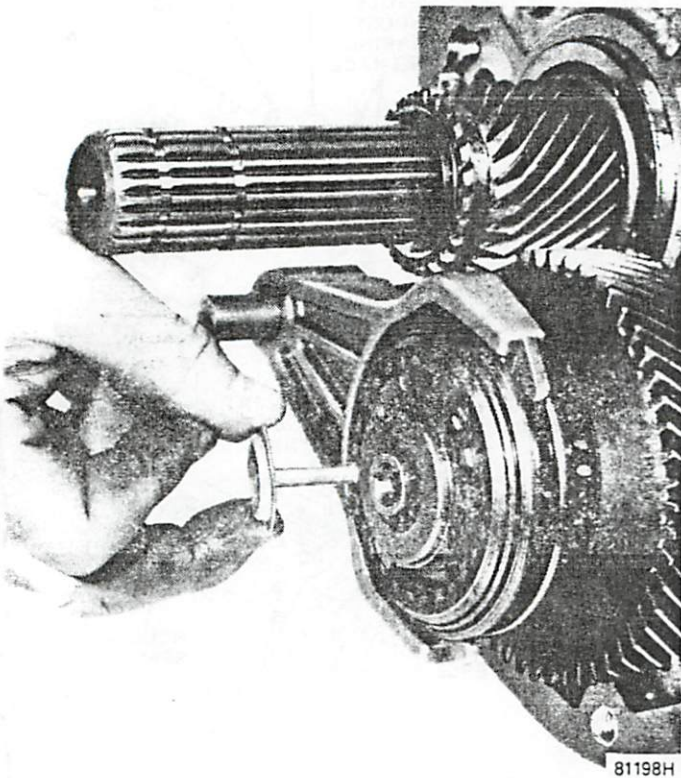

Fig. 2B-40 Funnel Removal/Installation
(4) Remove detent ball and spring from offset lever and remove roll pin from adapter housing or offset lever (fig. 2B-7).
(5) Remove plastic funnel, thrust bearing race and thrust bearing from rear of countershaft (figs. 2B-40 and 2B-41).